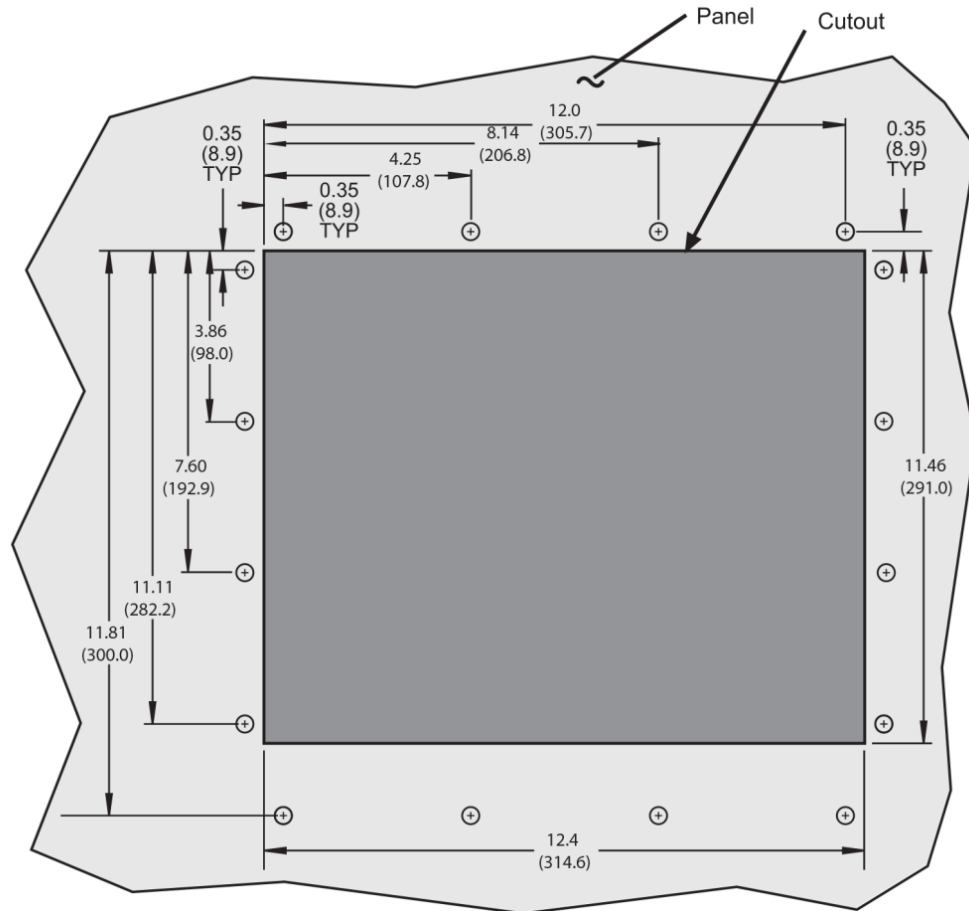
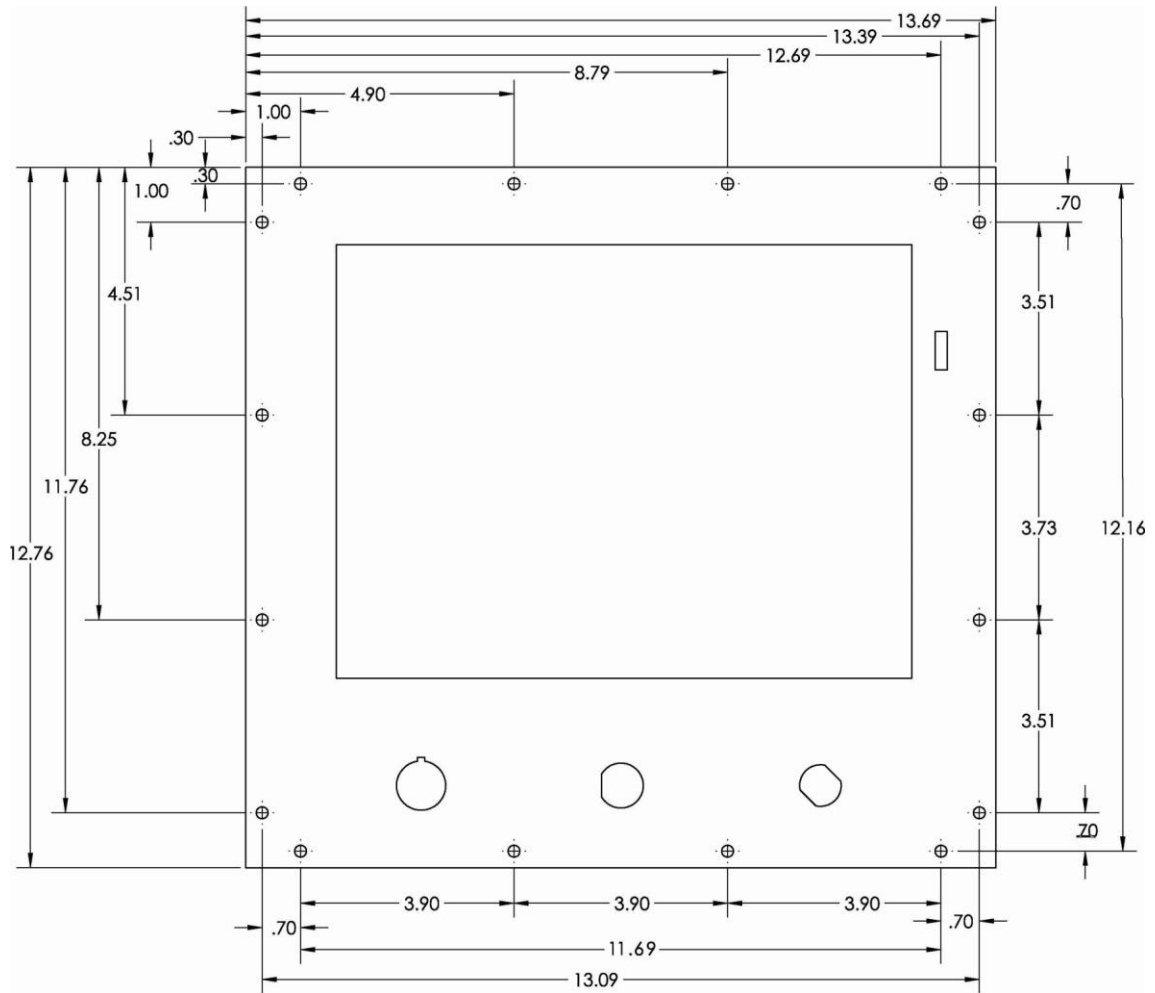

Figure 2-2. SmartPAC PRO Panel Mount Cutout Dimension
Figure 2-3. SmartPAC PRO Panel Mount Dimensions
2. Cut out a hole in your enclosure, and drill and tap twelve holes for #10-32 screws, referring to Figure 2-2, page 53, and Figure 2-3, page 54, for mounting and “cutout” dimensions.